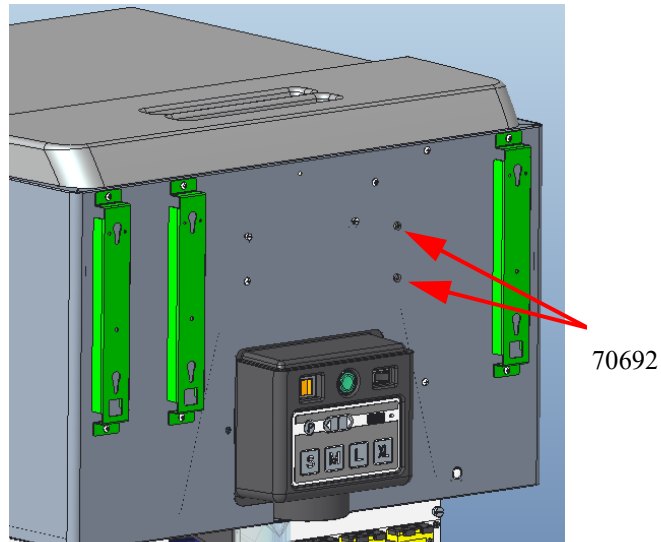

Figure 15.
- Figure 15. shows the location of adapter brackets, suitable for Option-2, Option-5 & Option-7. Assemble Cup/Lid dispenser adapter bracket part no.620071540 at the two left and one extreme right positions. If VESA mount hinge arm is to be installed in the center area, unscrew two screws part no.70692 and put them back with VESA mount.